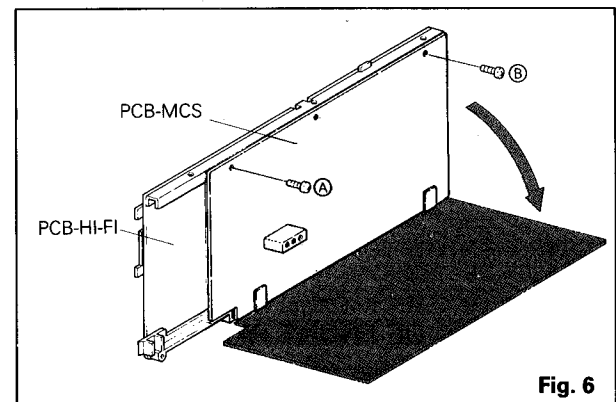

Fig. 6
- B. Remove the two screws (A) and (B) retaining the PCB MCS as shown in Fig. 6.